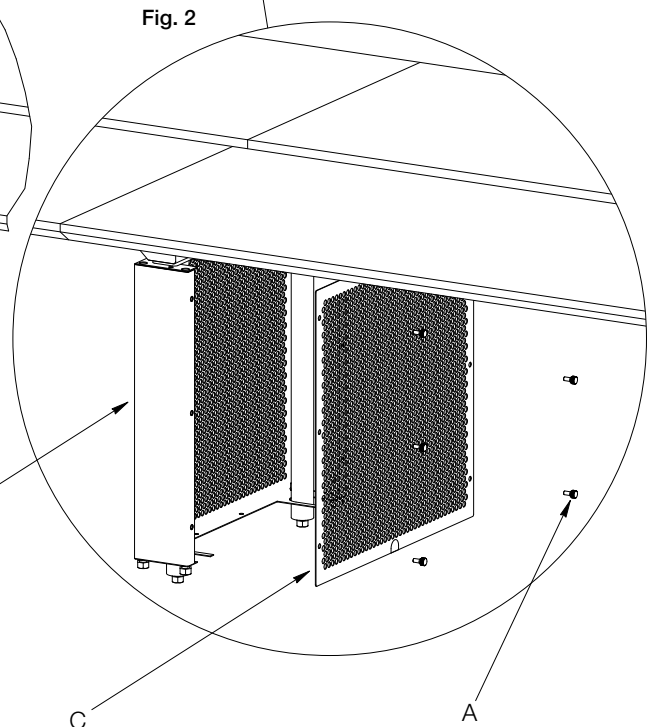

Fig. 2
3. Align and secure the cable tower side (C) to the weldment using thumb screw (A), qty-6. (Fig. 2)
(Fig. 2)